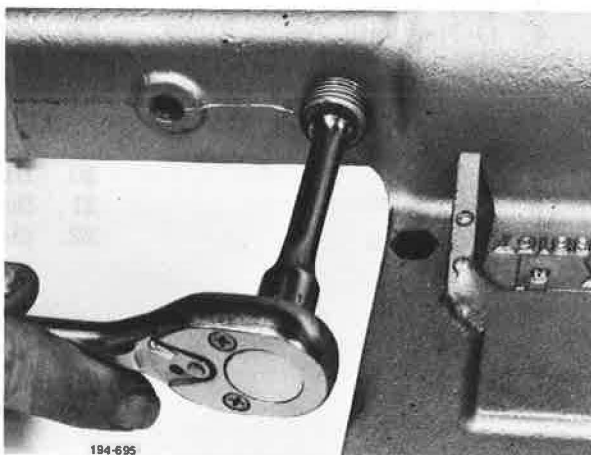

Figure 5-795. Removing Plug
7. Remove interlock plunger plug from air shift cover. See **Figure 5-795**.